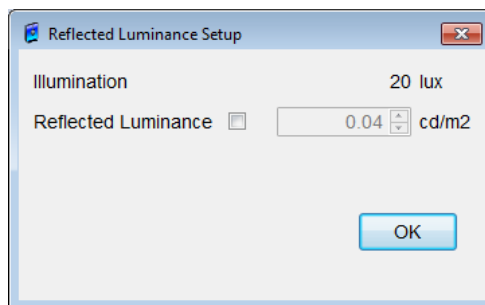

Figure 52: Reflected Luminance Setup dialog box
- **OK** button of **Reflected Luminance Setup**(Figure 52)
The Illumination value is used to calculate and display the **Reflected luminance** (Unit: cd/m^2). If you want to edit the **Reflected luminance**, click on the **Manually adjust the Illumination value to modify the Reflected Luminance value** button. The **Reflected luminance Setup** dialog box will be shown similar to **Figure 52**.
The **Illumination** value and the calculated **Reflected Luminance** value are displayed in the **Reflected Luminance Setup** dialog box, as shown in **Figure 52**. In order to update the **Reflected Luminance** value, click this button to modify this value.